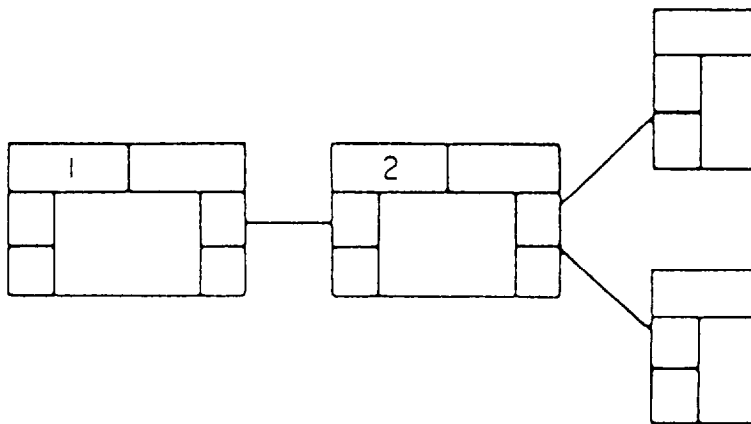

Figure 9-23.—Independent activity.
**INDEPENDENT ACTIVITY.**— An independent activity is an activity that is not dependent upon another activity to start. Activity 1, diagrammed in figure 9-23, is an example of an independent activity.